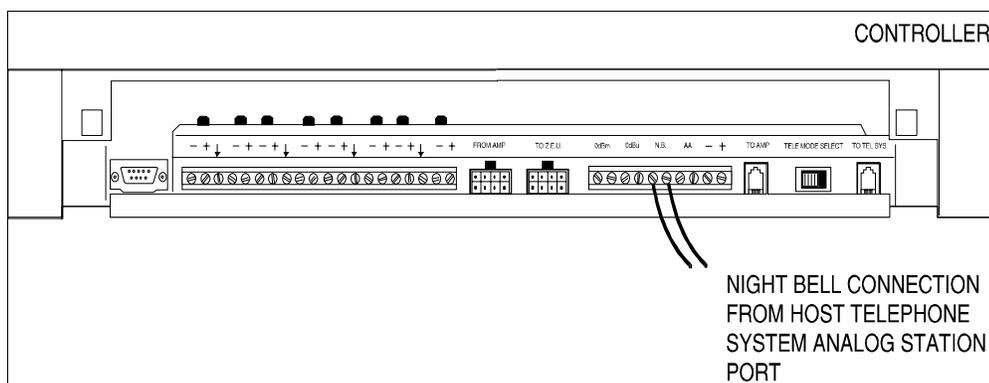

Figure 12. Night Bell Connection to Controller
- Connect two wires from the night bell analog station port on the host telephone system to Controller night bell (N.B.) input. See Figure 12.